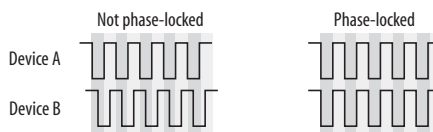

Figure 4-13: When transferring audio, two devices must have phase-locked audio clocks to prevent clicks, pops or other artifacts.
- Synchronizing the 828x with other digital audio devices so that their digital audio clocks are *phase-locked* (as shown in Figure 4-13)